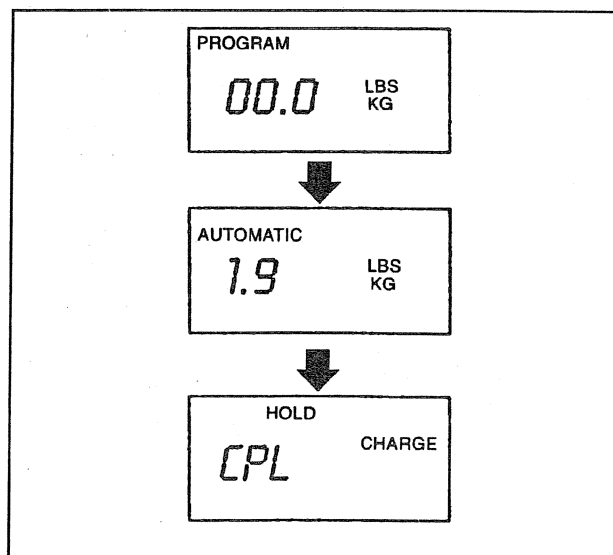

Figure 23—Display Shows Complete
1. Close the low side valve on the control panel (figure 23).